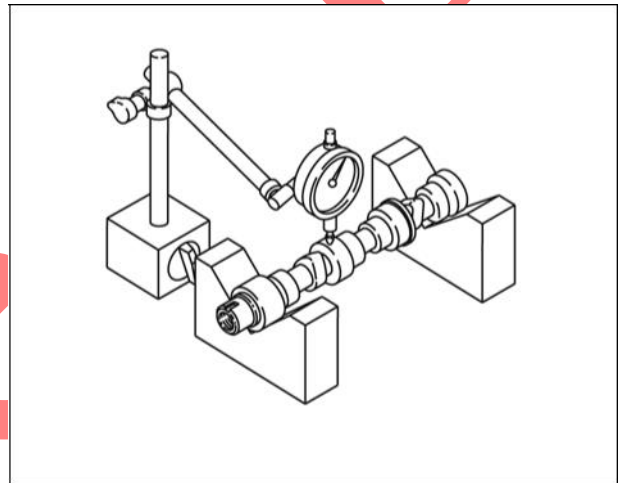

Figure 13
3. Measure camshaft run-out (Figure 13).